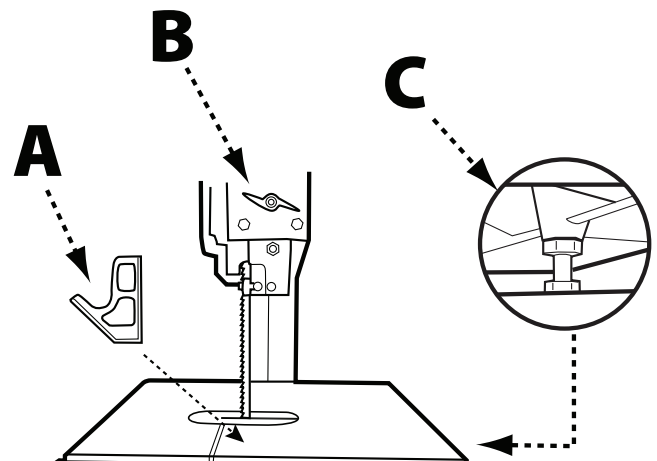

FIGURE 11
Place a carpenter's square (A) against the front and back side of the blade and check the alignment of the table. If the table is out of square, refer to Figure 11 and proceed as follows:
- Raise the upper blade guide assembly by loosening the lock knob (B).
- Loosen the flange nut (C) on the lower trunnion using a 12MM open end wrench and adjust the set screw until the table is square with the blade from the front and back.